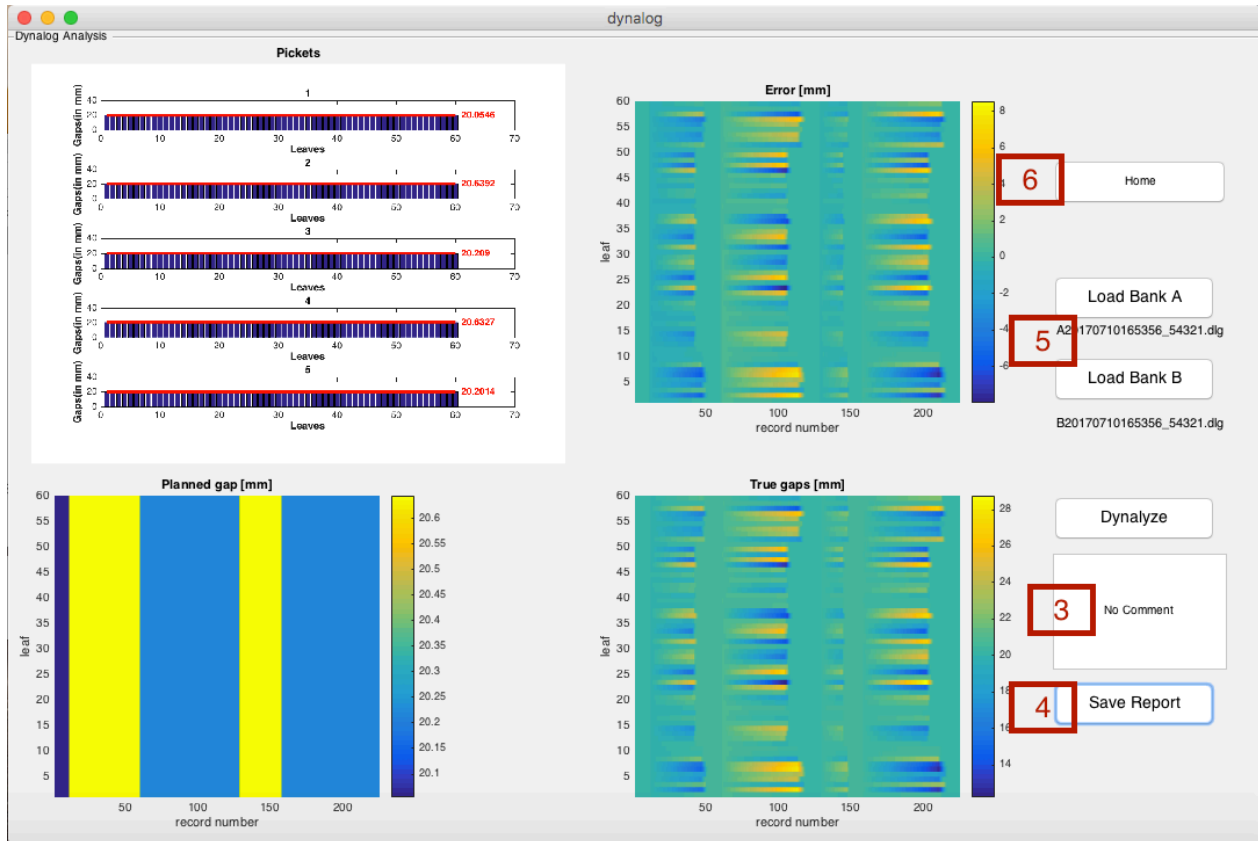

Fig. 12: QALMA Dynalog analysis
3. Add comments (Fig. 12).
4. Save 'Report' (Fig. 12).
5. Analyze more files (Fig. 12).